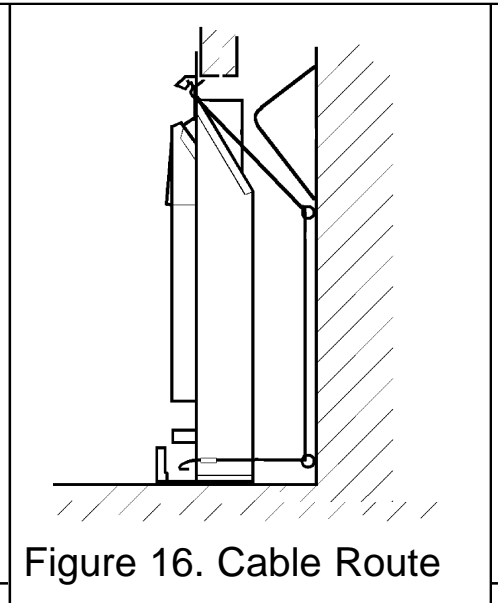

Figure 16. Cable Route
6. Thread the cables through the upper eyebolts in the rear wall and then through the lower eyebolts. Return the cables through the holes near the bottom of the convection box back panel and through the "V" shaped brackets near the bottom front sides of the convection box. See figure 16.